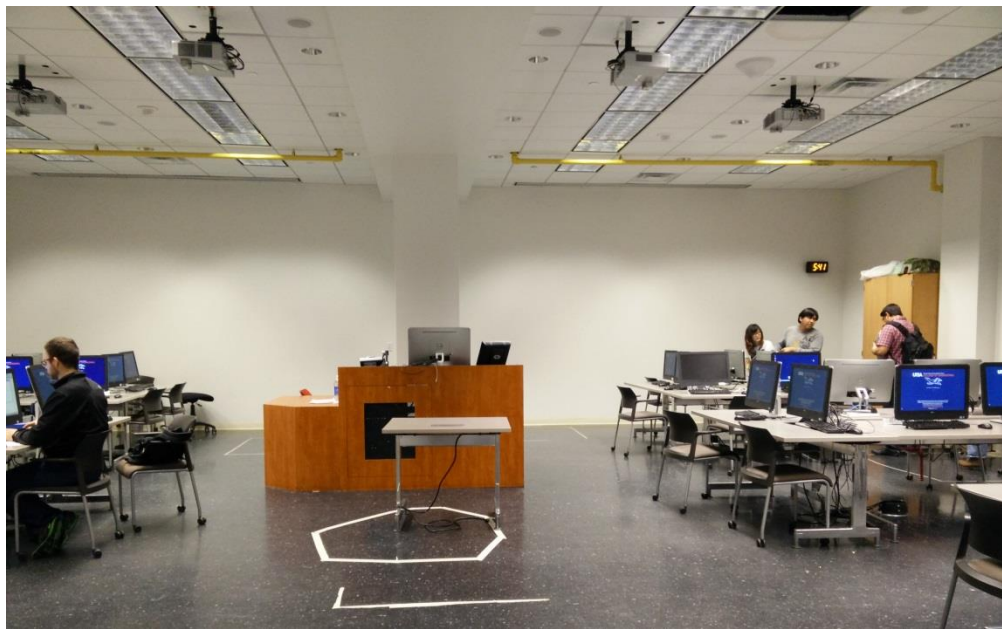

Figure 2: Unwanted markings on the floor
- Floor has some unwanted markings (line strips), used by students of different class to actuate autonomous path follower robots (see Figure 2). Can be suggested to use cardboards/wooden ply sheets to stick those strips.